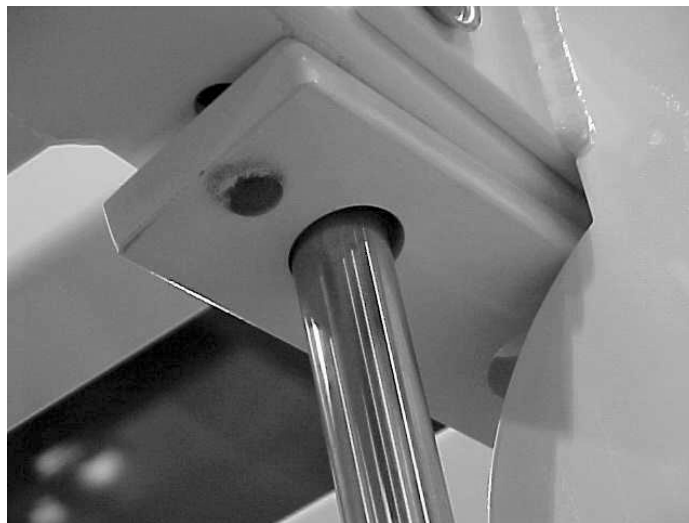

Figure 10. Bolt on the top plate.
- C. **Prepare the weight stack.** Slide the guide rods (2) through the weight stacks (1) as shown below. Place rubber bumpers (3) on the bottoms of each guide rod. Make sure the pull pin (4) is in the bottom weight plate.
- F. With the top plate on the guide rods, bolt on the top plate to the top of the cells as shown in Figure 10 using a 9/16” socket and combination wrench and the 3” bolts (with cap washers) that were previously inserted.